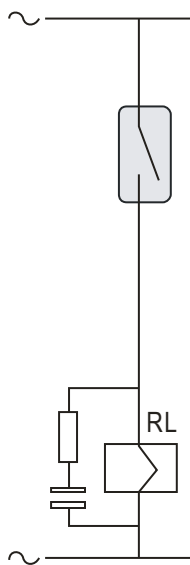

Figure 1.
- o In AC: connect one RC filter or one varistor in parallel with the coil (figure 1)